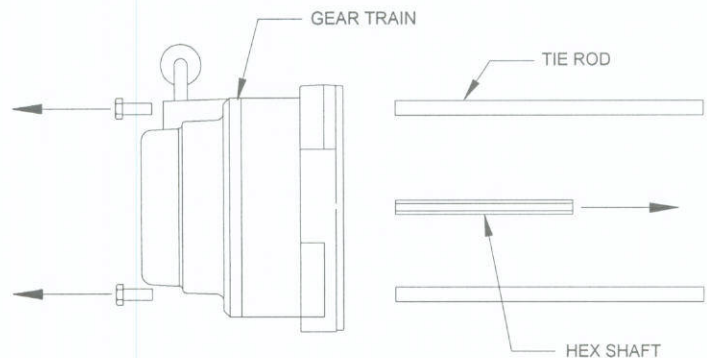

Figure 2.2
3. Set the gear train back down in a horizontal position and remove the other three tie rod bolts and tie rods (*Figure 2.2*). A clamp or pliers may have to be attached to the tie rods to remove the bolts. Remove the hex drive shaft.
10. Re-install the winch tie rods in the previously marked positions on the motor end and finger tighten bolts (*Figure 2.2*).
11. Install hex drive shaft into center of gear train. With the clutch lever in the engaged position, rotate the shaft several times to make sure the gears move freely (*Figure 2.2*).